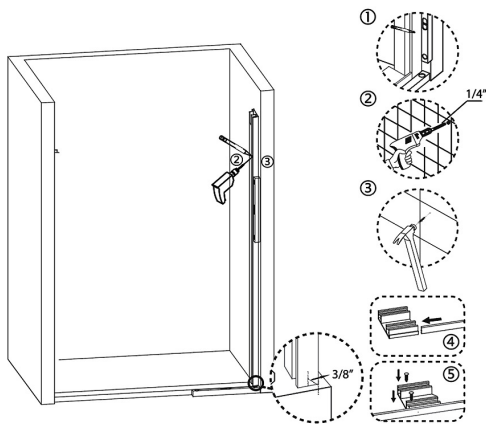

FIGURE 1
(See Figure 1). Ensure tray is level (1). Measure the position of wall profile (to be vertical) and mark the position, then put into wall plugs (2) (3). Insert the central guide into water guard (4). Place the water guard onto shower tray (5). Straighten wall profile and central guide.